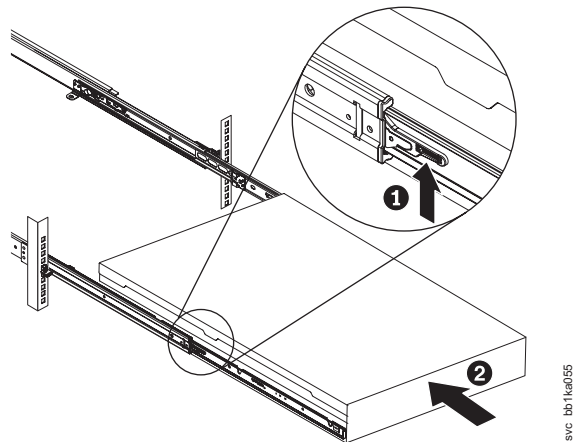

Figure 116. Raising the SAN Volume Controller 2145-CF8 locking levers of the slide rails of the rack
12. Lift the locking levers (**1** in Figure 116 on page 136) on the slide rails and push the server **2** all the way into the rack until it clicks into place.